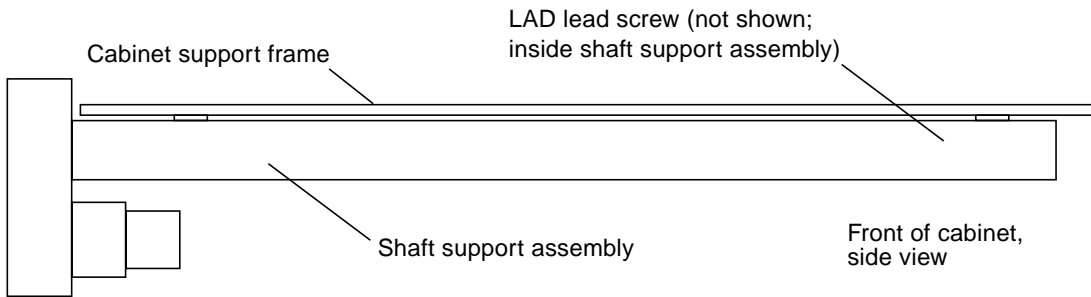

FIGURE 6-4 Linear Actuator Device Lead Screw Lubrication
- 2. Open the cabinet rear door. The Linear Actuator Device lead screw is the long large screw that runs the length of the shaft support assembly. It is inside the assembly, exposed and accessible from the top of the assembly. See FIGURE 6-4.**